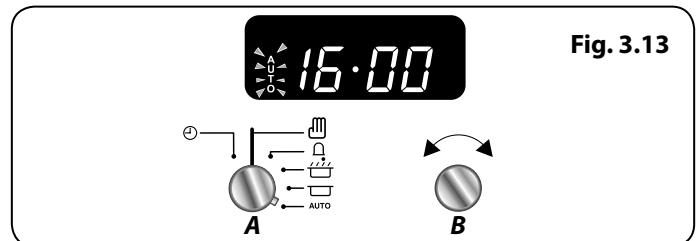

Fig. 3.13
6. When the program starts the oven, the cooking symbol will appear on the display. Once the specified time has elapsed, it will emit an alarm and the Multifunction Oven will stop working. The 'Cooking' symbol on the display will disappear and the word '**AUTO**' will flash (**Fig. 3.13**).